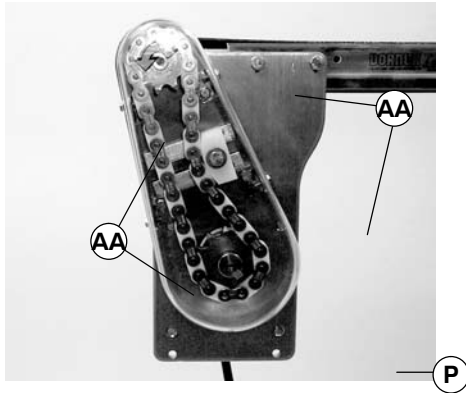

Figure 23
1. Loosen four screws (AA of Figure 23) and remove cover (P).
**NOTE:** Do not over-tighten screws (AA of Figure 23).
8. Install cover (P of Figure 23) and tighten four screws (AA) to 35 in-lb (4 Nm).